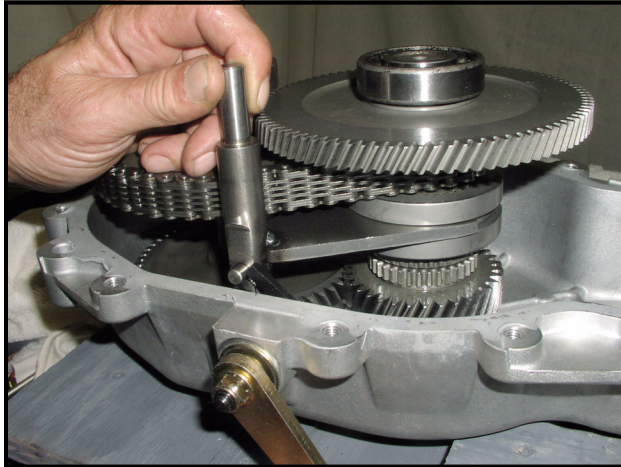

Figure 8-84 Shifter Fork and Engagement Gear Shaft Pin
7. Hold the engagement gear fork shaft up with one hand and at the same time move the fork shaft and pin to the right. Turn the shifter bell crank arm so that the shifter arm fork interlaces with the engagement fork shaft pin (**Figure 8-84, Page 8-25**).